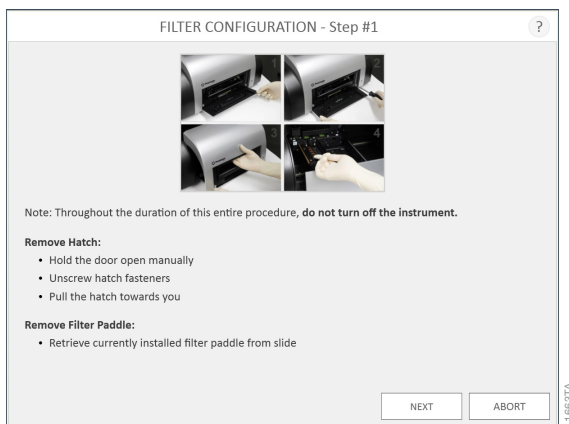

Figure 86. Filter Configuration procedure.
2. Manually open the plate door, and using the Phillips-Head Screwdriver, loosen the two screws at the bottom sides of the door (Figure 86).
3. Next, pull the front access door toward you to remove the door (Figure 86).